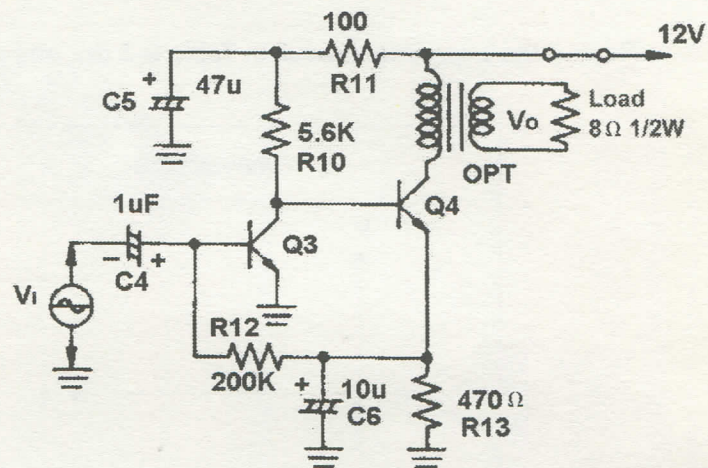

Fig 9-3
- (1) Insert the short-circuit clip by referring to Fig 9-3 and the short-circuit clip arrangement diagram 23005-block b, then connect power supply (+12V).
- (2) Connect signal generator and oscilloscope in the input terminal, and connect 8Ω resistor (dummy load is already on board, and do not have to be connected.) and oscilloscope to the output terminal.
- (3) Adjust the signal generator to 500Hz sine wave and gradually increase the output voltage of signal generator so that the oscilloscope can display maximum non-distorted waveform.
- (4) Adjust input signal frequency from 0Hz~20KHz, then view the waveforms of V_{in} and V_{out} , and record the relation between V_{out} and f .
- (5) Connect the signal generator or the output (earphone) jack of walkman in the input terminal again, then view if the voice is still generated in Output terminal.